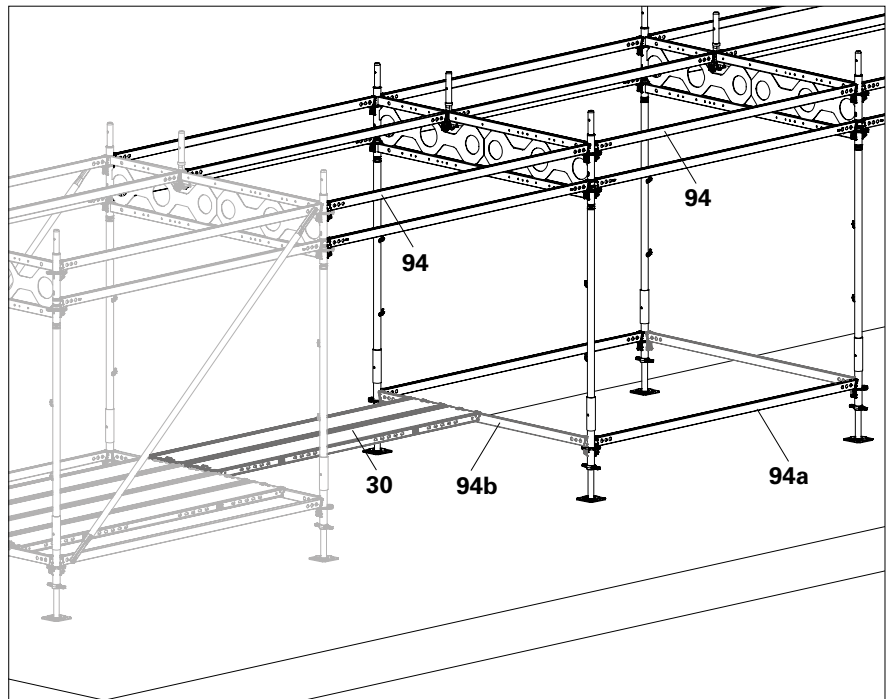

Fig. D6.06
1. Set up additional frame columns and brace with Horizontal Ledgers UH-2 (94). See work steps for setting up the first bay.
4. Fit Horizontal Ledger UH-2 (94b) as an assembly aid on the base level and attach the decks (30). (Fig. D6.06)